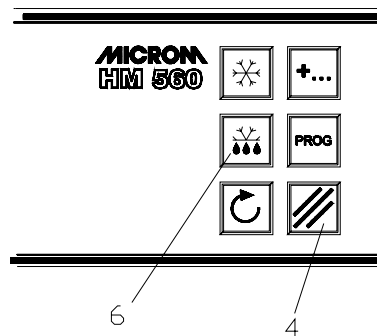

Fig. 56b
- First press the RESET button (fig. 56b.4).
- While the RESET button is still being pressed, also press the button (fig. 56b.6).
- To activate the cooling function of the instrument again, press the buttons (fig. 56b.4) and (fig. 56b.6) once more.